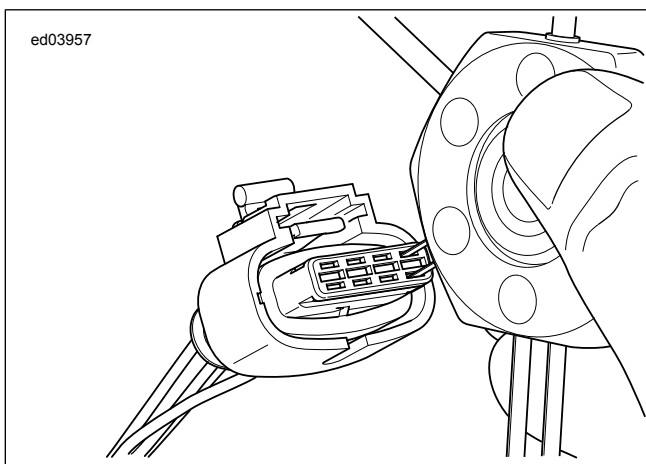

Figure B-5. Terminal Removal: Bosch Compact 1.1M Connector
1. See Figure B-5. Slide the locking bar off the terminal housing.